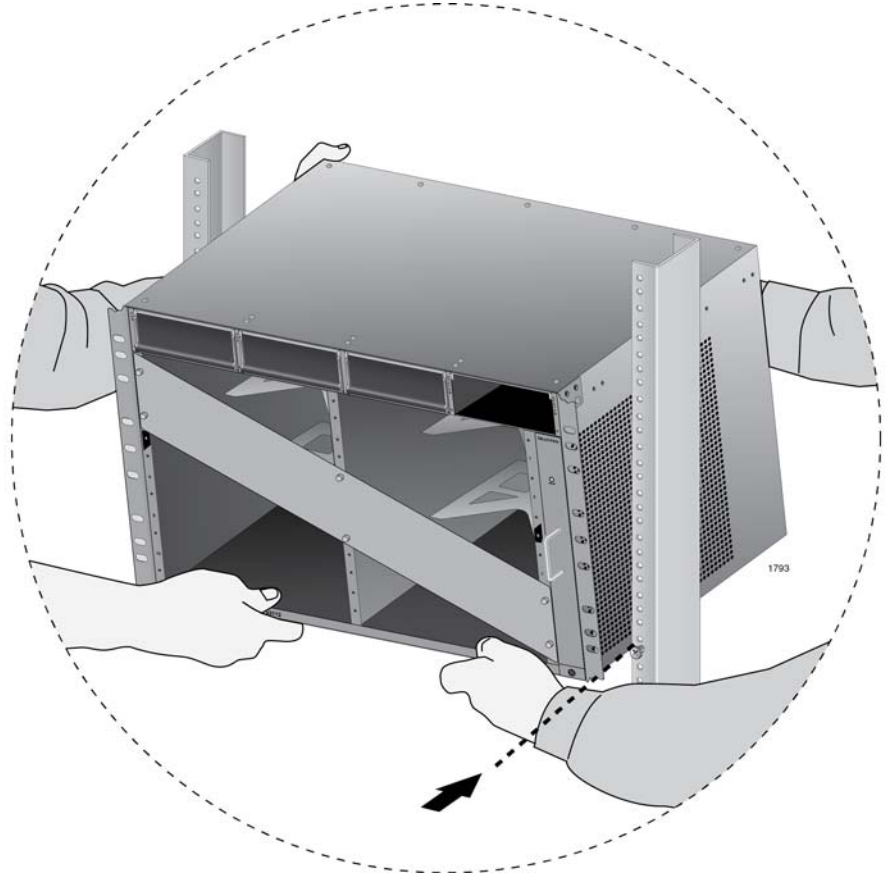

Figure 39. Lifting the AT-SBx3112 Chassis into the Equipment Rack
2. Do not mount any other equipment within 152.4 mm (6") above this space during installation. This additional vertical space is temporary and allows you enough room to lift and tilt the chassis into its position in the equipment rack without hitting other equipment, as shown in Figure 39 on page 99. You may use this additional space for other network equipment after the chassis is installed.
2. Lift the AT-SBx3112 Chassis into the equipment rack and set the bottom of the equipment rack brackets firmly on the two equipment rack screws you installed in “Preparing the Equipment Rack” on page 91. Refer to Figure 39.